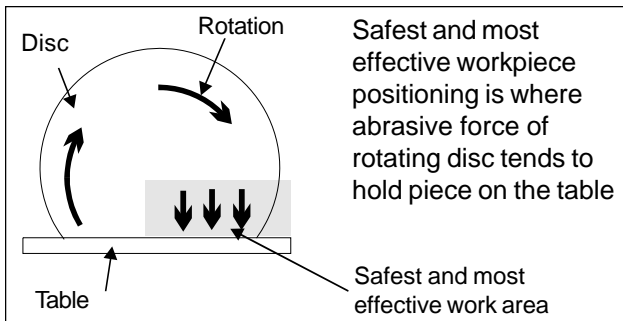

Figure 6: Correct table work area
4. The safest position at which to do any grinding is on the righthand side of the work table where the disc is moving downward past the work table. Whenever possible, keep the workpiece in this area when grinding. In addition to safety, keeping the workpiece in this area greatly increases the effectiveness of the dust control chute and any vacuum dust control system you might be using. See Figure 6.